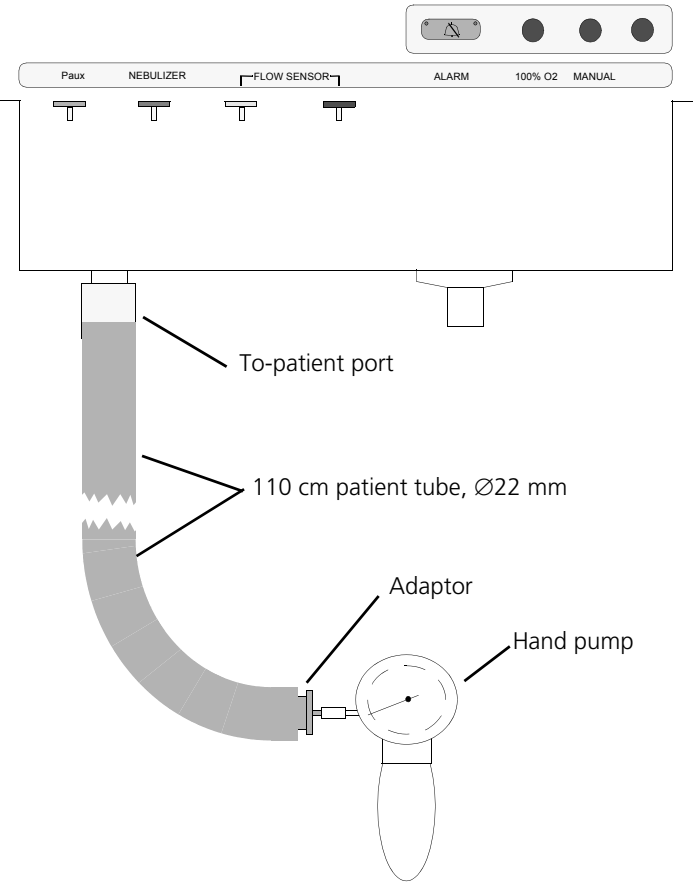

Figure 9-31. Setup for the safety-valve-block airtightness and patient overpressure-valve checks
1. Connect the tubing system as shown on Figure 9-31.
1. Using the setup for the safety-valve-block airtightness check (Figure 9-31 on page 9-58), simulate an overpressure by continuously pumping the hand pump.